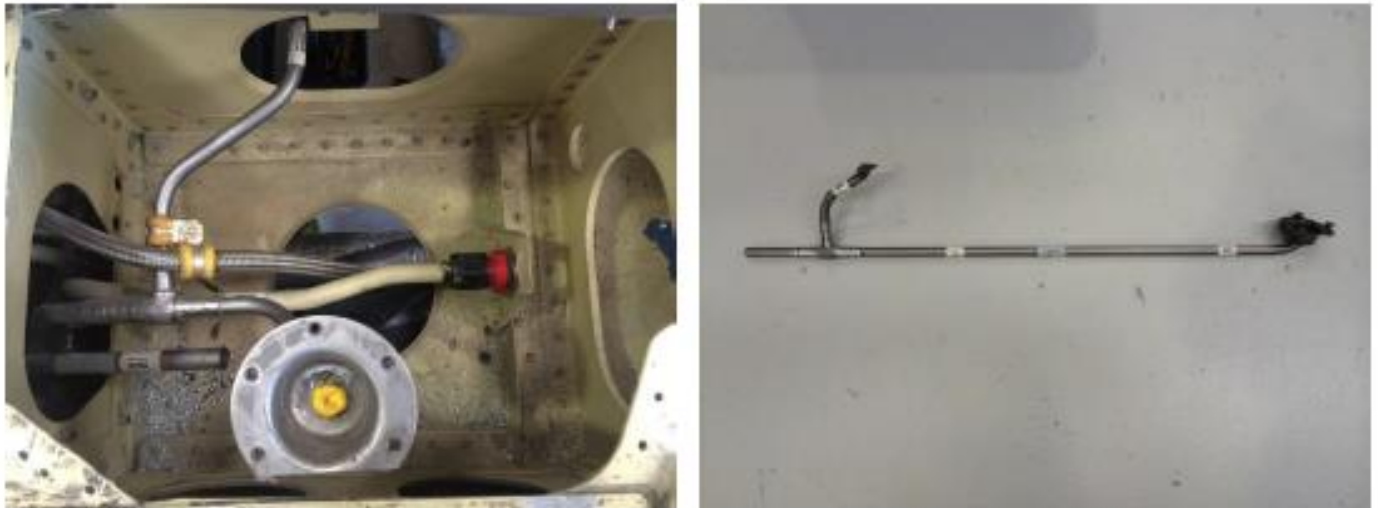

Figure 2
8. With reference to Figure 2, cut drain line 65mm aft of rear scupper tube and tee section and remove.